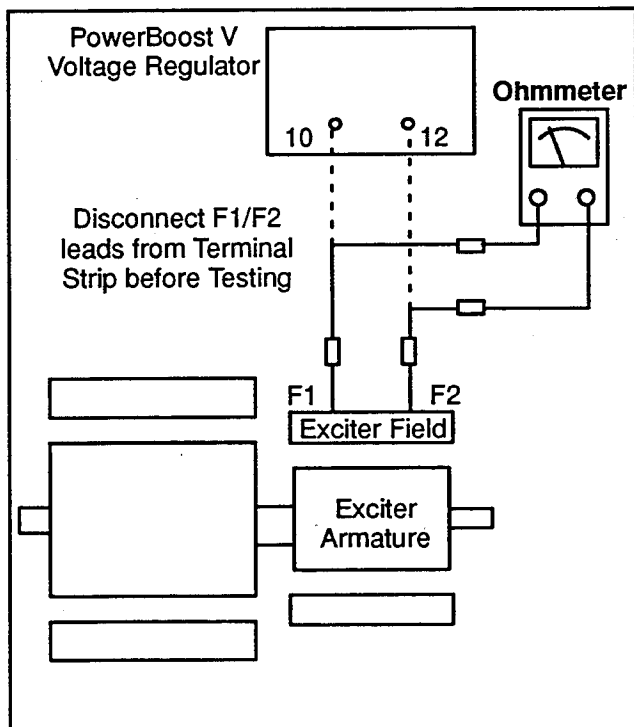

Figure 8-5. Checking Exciter Field Resistance
2. Check exciter field resistance by connecting an ohmmeter across exciter field F1 and F2. See Figure 8-5. The resistance reading for a cold exciter field is found in Section 1. Specifications. A low reading indicates an internal short and a high reading indicates an open winding. Repair or replace exciter field if ohmmeter readings indicate exciter field is defective. If resistance test proves inconclusive, perform a megohmmeter test on exciter field as described in the next step.